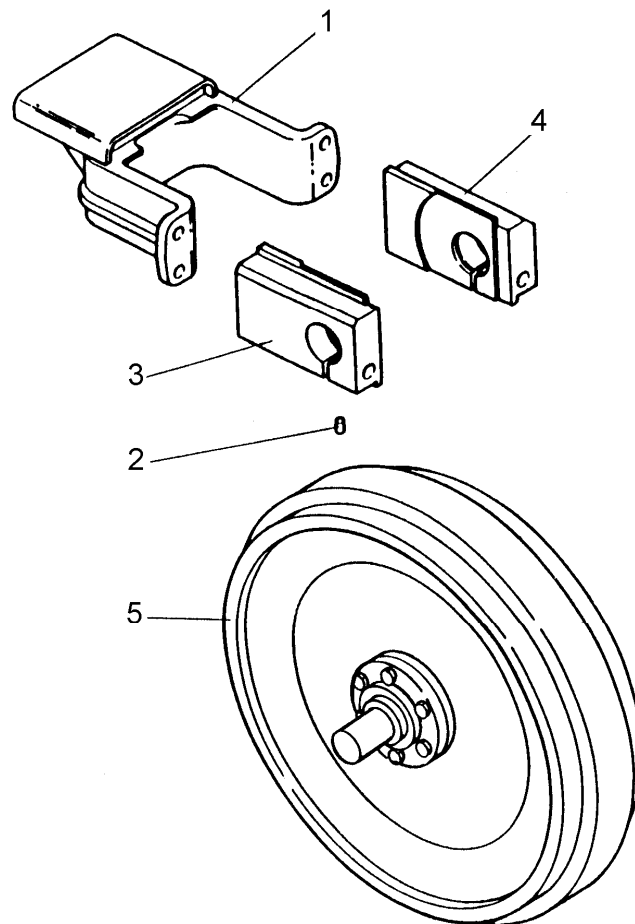

Fig. 14.17A. Front Idler and Fork
3. Attach a hoist to front idler and fork (5 and 1, Fig. 14.17A) and remove from track frame.
1. Remove hardware and fork (1, Fig. 14.17A) from front idler (5, Fig. 14.17A). Remove clamp bolts from blocks (3 and 4, Fig. 14.17A). Using large pry bar, relief clamping tension on idler shaft. Remove the blocks. Remove the spring pin (2, Fig. 14.17A) from idler shaft.
2. Remove the plug (4) and drain oil from front idler. Remove the retaining ring (10) and slide spacer ring (11) with O-ring (8) off shaft. Remove seal kit half (9) from shaft (3). One half of the seal kit (9) will remain in seal retainer (7). Repeat this step for other side of idler. Remove remaining kit seal half from retainer and keep both halves (from each side) together.
7. Coat bores of mounting blocks (3 and 4, Fig. 14.17A) with grease. Install the spring pin (2, Fig. 14.17A) into idler shaft (3). Install blocks onto idler shaft (3) and secure with fork (1, Fig. 14.17A) and hardware. Torque fork bolts to 455 [Nm]. Install mounting block clamping bolts. Install mounting block with spring pin to inside (opposite lube plug) shaft of front idler and mounting block without spring pin to outside shaft and secure with hardware. Torque the idler shaft bolts to 730 [Nm].
1. It is recommended that a new retaining ring (6) and piston seal (5) be installed whenever the track adjuster is disassembled.
4. Inspect the blocks (3 and 4, Fig. 14.17A) for damage or excessive wear and replaced if necessary.